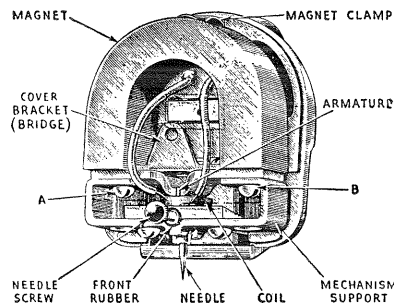

Figure 8
In order to replace a defective coil or the hardened pivot rubbers (see Figure 8), it is necessary to proceed as follows:
- (d) Remove screws A and B, Figure 8, and then remove the mechanism assembly from the pole pieces.
- (h) After remagnetizing, it is necessary to correctly center the armature. This may be done quite accurately by feeling its play after the needle is inserted. A little practice will quickly show which way an adjustment is necessary to have the armature centered properly. The adjustment is made by loosening screws A and B (Figure 8), and sliding the mechanism slightly in relation to the pole pieces.